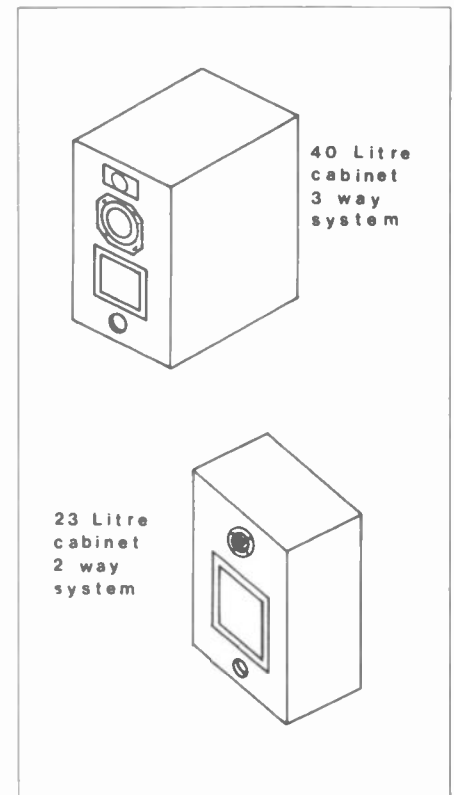

Figure 13. 40 and 23 Litre cabinets.
1.5V battery with positive to 'IN' and negative to 'C' on the module. The woofer cone-panel should pop outward, if not then the polarity is incorrect and the woofer (or crossover) wiring should be reversed. Figure 13 shows the two types of cabinet discussed in this article.